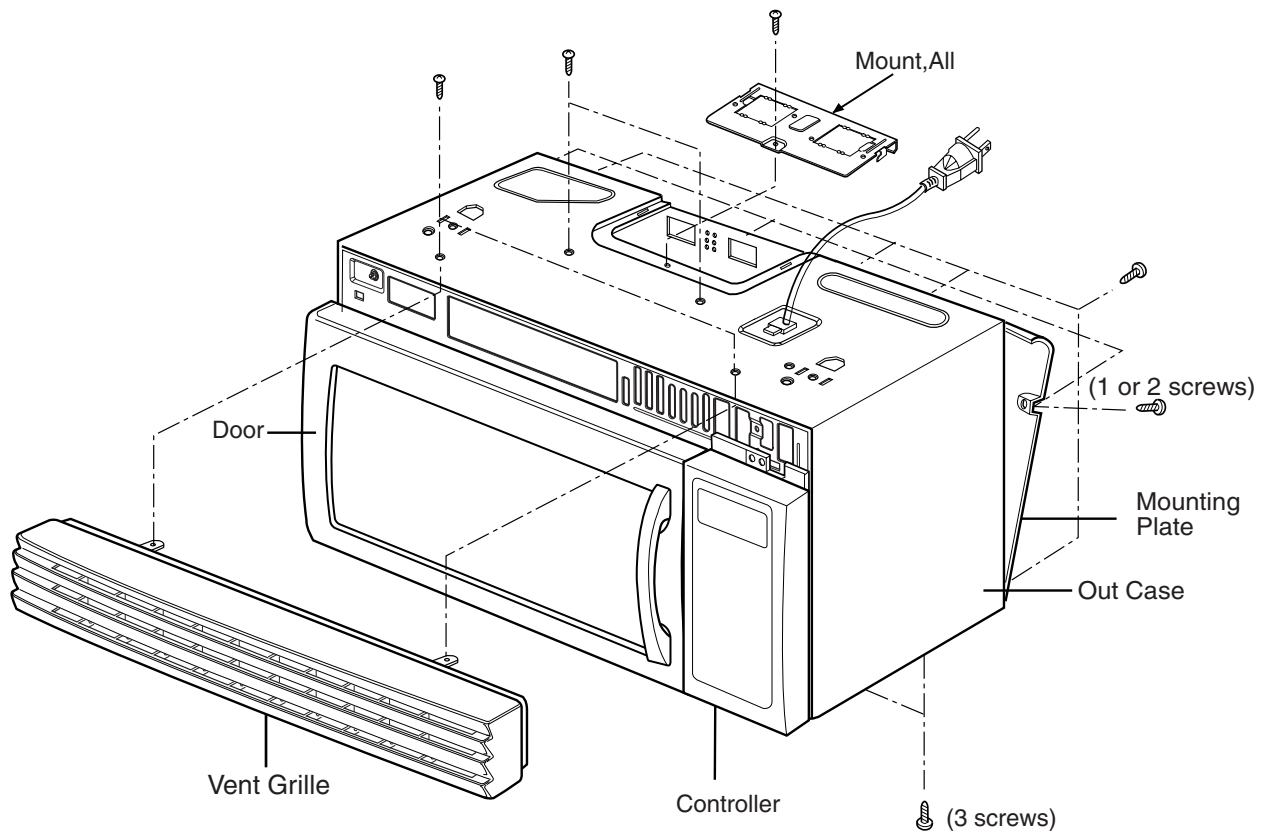

Figure 8
B. REMOVING THE OUTSIDE CASE (Figure 8)
- (1) Remove the vent grille by removing two screws securing it to the outside case.
- (2) Remove two screws securing it to the air duct.
- (3) Remove the mounting plate by turning the screws (1 or 2 screws) securing it to the out case.
- (4) Remove two screws on the left central edge and one screw on the right central edge of Base plate. Remove the Mount, All from the outside case by removing one screw securing it to the outside case.
- (5) Remove six screws of the rear cavity.
- (6) Remove the outside case.